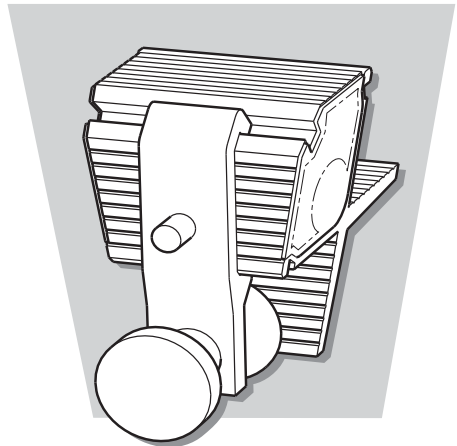

Figure 9: Dovetail saw guide set to cut tails. Note that taper is vertical.
7. Set the guide as shown to cut the tails (see **Figure 9**). Note that, with the use of this guide, it doesn't matter whether you cut the tails first or cut the pins first. The standard method is to cut tails first.